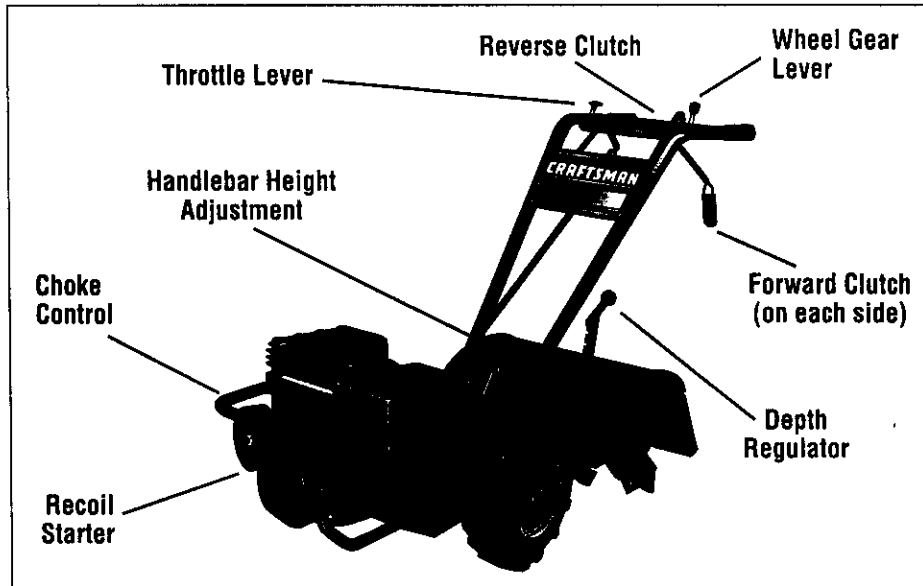

Figure 3-10
2. Put the Wheel Gear Lever (Figure 3-10) in the ENGAGE position.
3. Put the Depth Regulator Lever (see Figure 3-10) in the "travel" position (lever all the way down) so that the tines are clear of the ground.
6. Put the Engine Throttle Lever (Figure 3-10) in the START setting.
7. Choke the engine (see Figure 3-10) as follows: Move choke lever to FULL CHOKE position (move in direction of arrowhead located on lever).